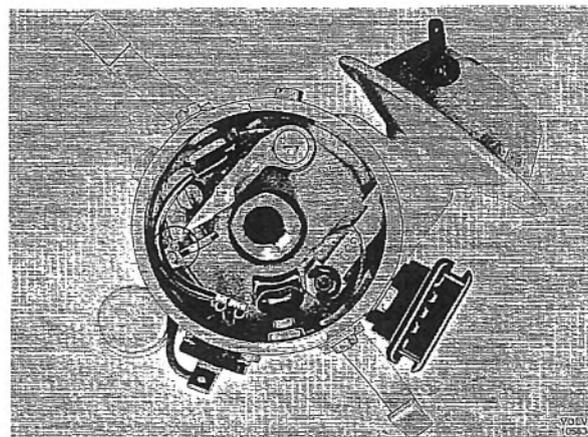

Fig. 3-81. Recess for adjusting ignition contacts
2. Adjustment is made by slackening a little the screw for the ignition contacts and then inserting a screwdriver in the recess, Fig. 3-81, and turning the screwdriver until the dwell angle is the correct one.